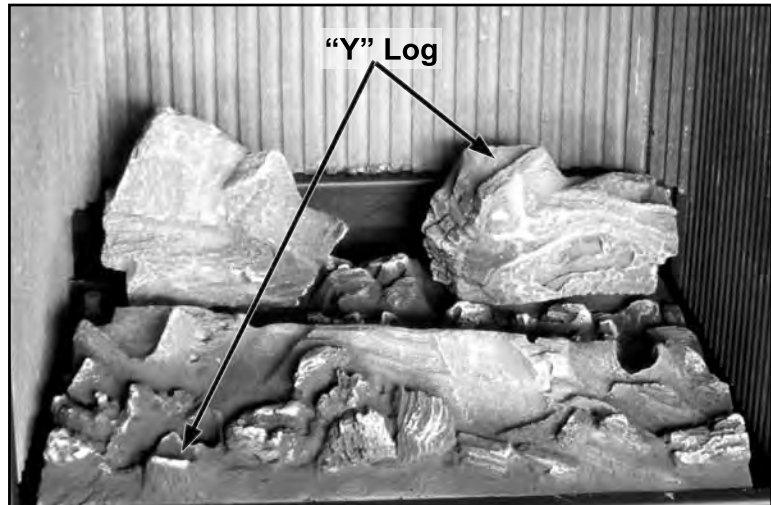

Figure 54: Log Placement of "Y" Log.
3. Place the bottom of the "Y" Log in the ledge at the front left of the burner and the top of the log rests on the Right Rear Log Chunk as shown in Figure 54 and 55.